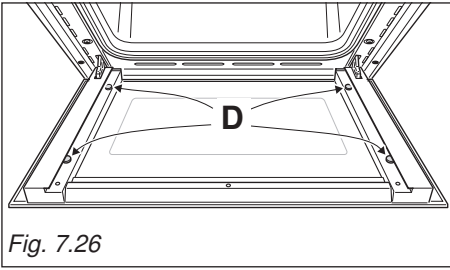

Fig. 7.26
- Check that the four rubber pads are in place ("D" in fig. 7.26).